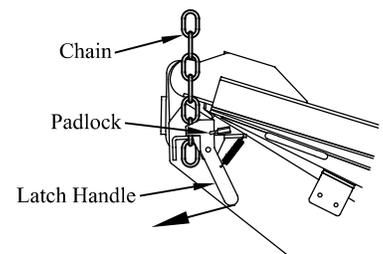

Figure 9: Steps 16 and 17.
Step 16. Latch the liftgate by pulling on the latch lever, engaging the latch chain into the latch, and then releasing the latch lever (Figure 9).
Step 17. Always install the padlock on the latch and deactivate the control when not in use (Figure 9).